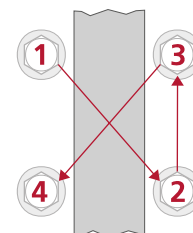

Figure 8: U-Bolt Locknut Tightening Sequence
4. Tighten the U-bolt locknuts evenly in 70 Nm increments to 510 Nm torque in the proper pattern to achieve uniform bolt tension. Refer Figure 8.